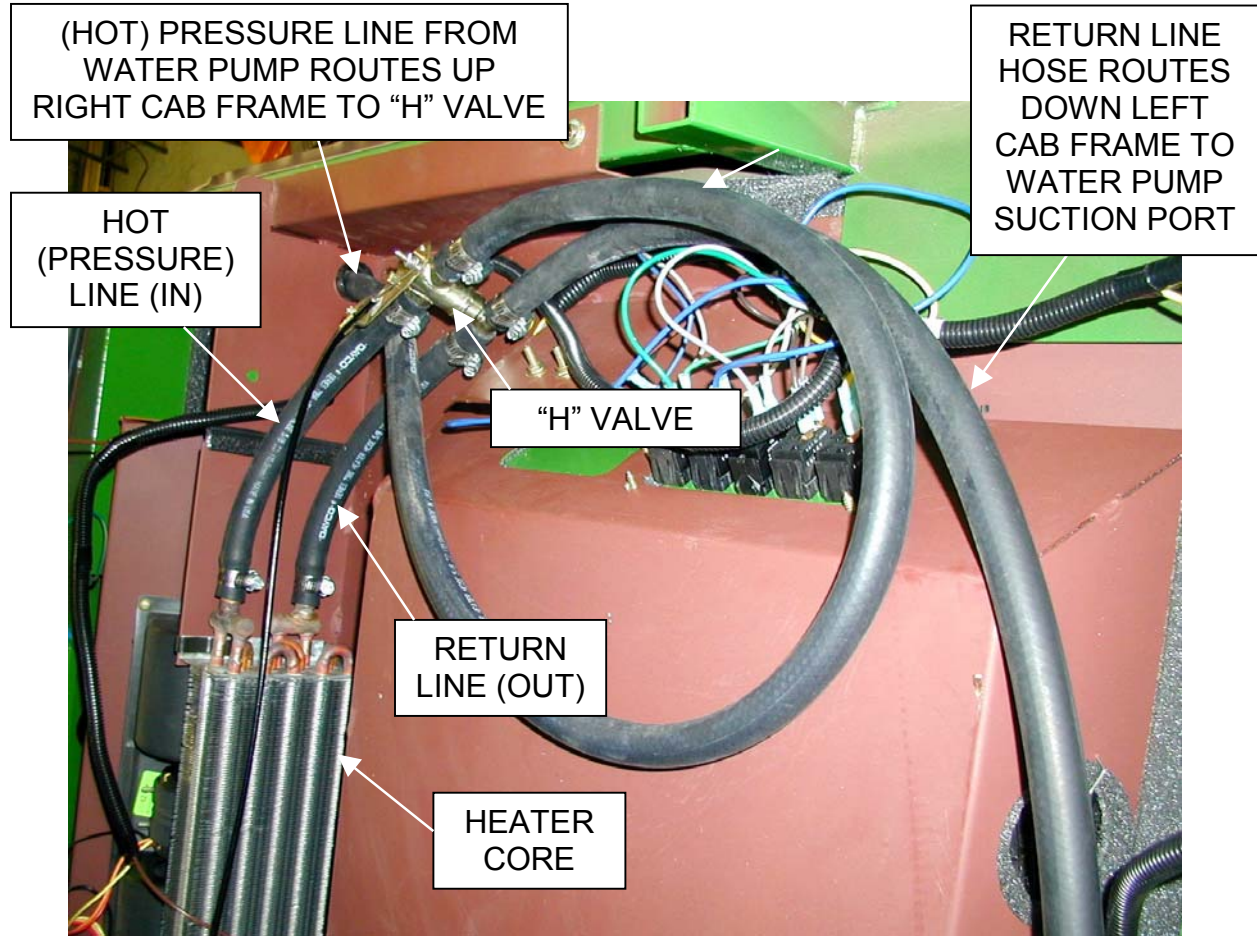

Figure 10
- 34) To check the "H" Valve and hose routing, remove the roof to inspect the cab's headliner heater area. See Figure 10.
- 35) Verify hose routing from water pump nearest the thermostat to the top nipple of the "H" valve. See Figure 10.